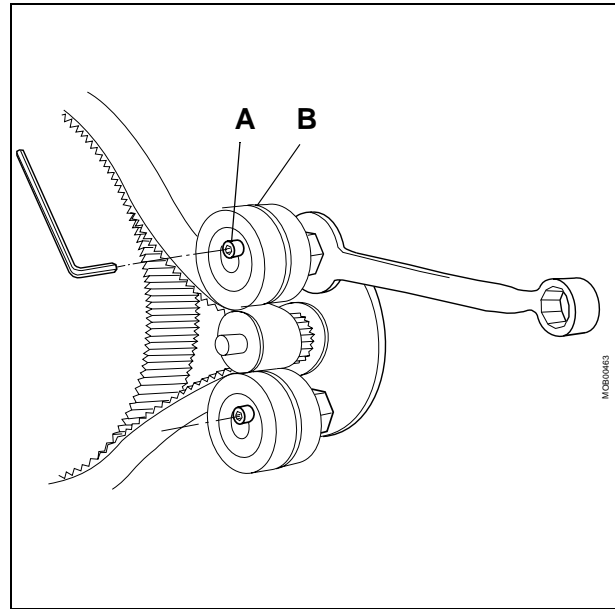

Fig. 3
- Loosen the 2 screws (**A**/Fig. 3).
- Loosen the tension bearings (**B**/Fig. 3) with a 13 mm wrench.
- Tighten the tension bearings (**B**/Fig. 3) and the screws (**A**/Fig. 3).